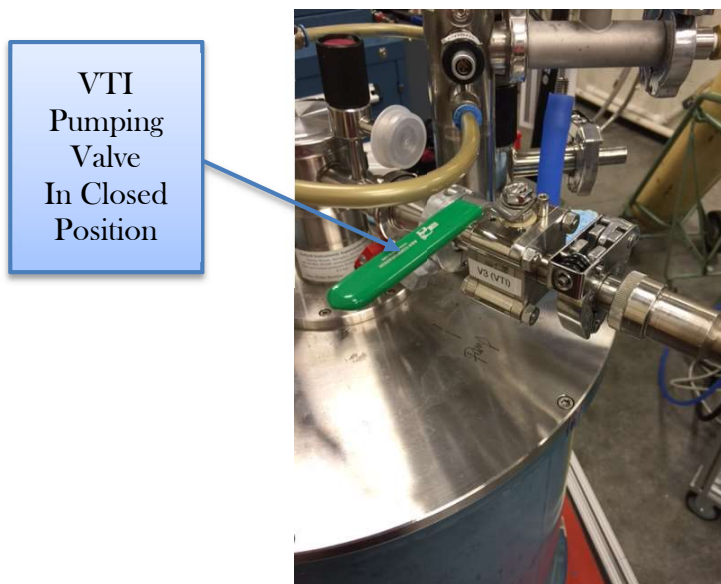

Figure 3
- 1.4 Close the VTI pumping valve (Figure 3).